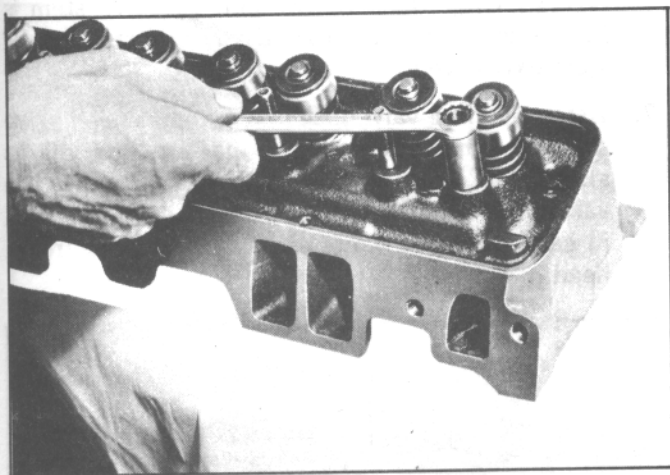

Fig. 102. Removing Rocker Arm Stud
1. Remove old stud by placing tool J-5802-1 over the stud, installing nut and flatwasher and removing stud by turning nut (Fig. 102).